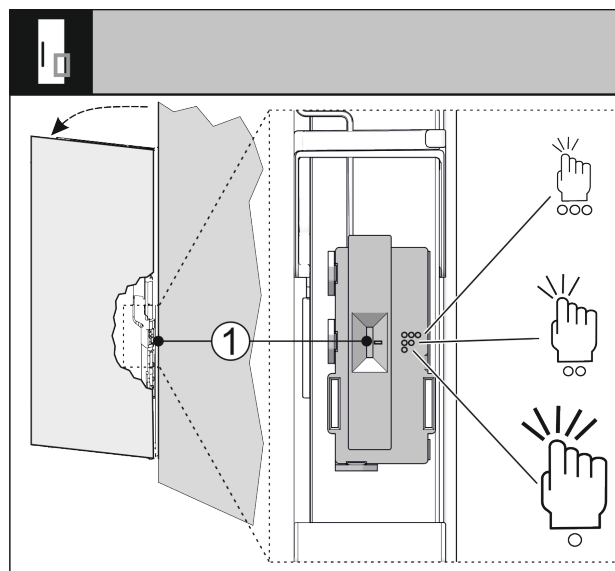

Fig. 71
You can use a switch Fig. 71 (1) to adjust the sensitivity of the knocking sensor. The switch is on the bottom third of the door on the hinge side.
- Move the switch Fig. 71 (1) to the required switch position.